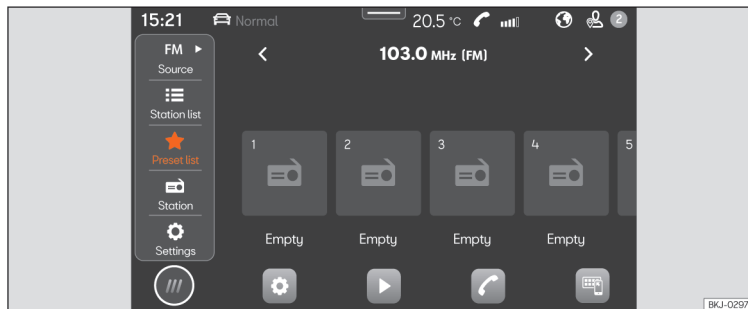

Fig. 130 Schematic representation: Radio view
- Press **HOME** > >>> **Fig. 130**.